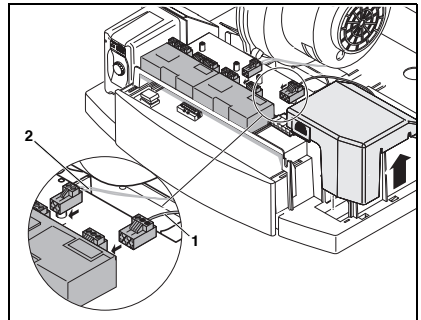

Fig. 5 Connect mains cable
- Connect the mains cable (3-PIN) and the UBA3-Bus cable (2-PIN) (part of the cable harness inside the boiler) to the module (fig. 5, pos.1 and 2).